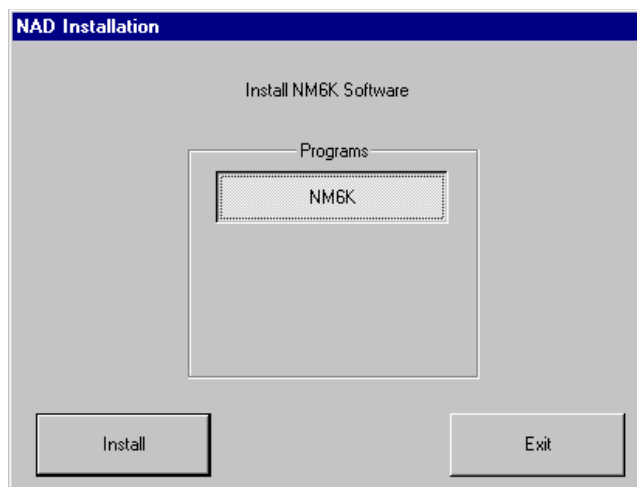

FIGURE 1-14. 'NAD Installation' Dialog
- 1.36 On the 'NAD Installation' dialog, ensure that 'NM6K' is selected as the program, and click the 'Install' button. See FIGURE 1-14.